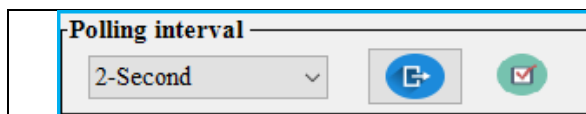

Figure 44
- This submenu is use for setting data fetching interval of device. Here two interval options are available for settings as shown in Figure 44.